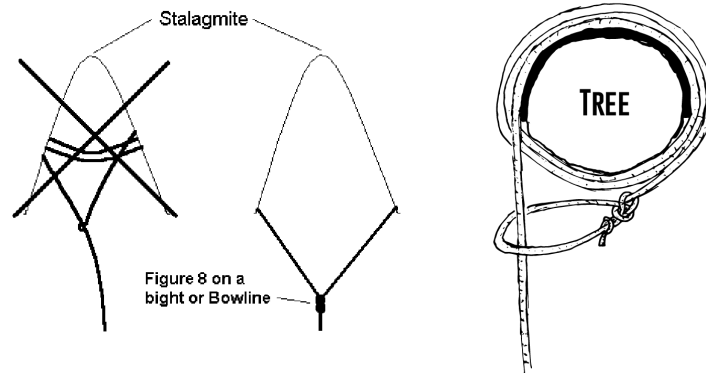

Figure 28: Left: rigging to stalagmites. Right: Friction wrap and safety line
- Never use a friction wrap on stalagmites. The wraps can work their way over the top of the formation which could cause the rig to fail. See figure 28
- When properly rigged and loaded, the main line should pass straight through the tie off without deviating. *The tie off should not have any tension when the main line is loaded.* Note the slack in figure 28.